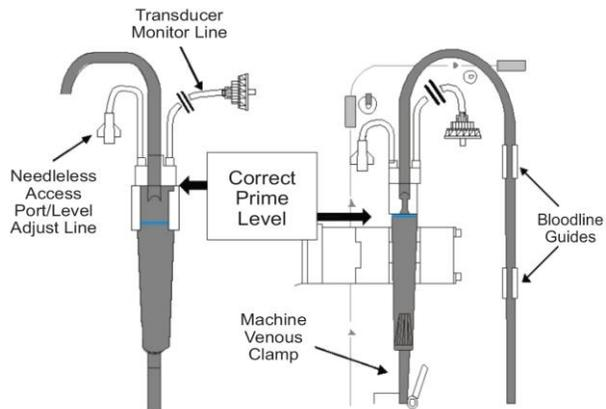

Figure 4: Arterial and Venous Chamber Levels
4. Prime arterial chamber approximately 90% full and venous chamber to approximately 70% full. See figure 4.